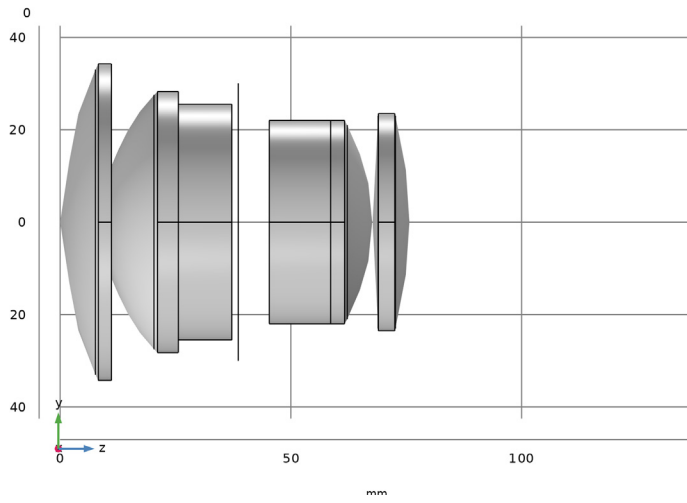
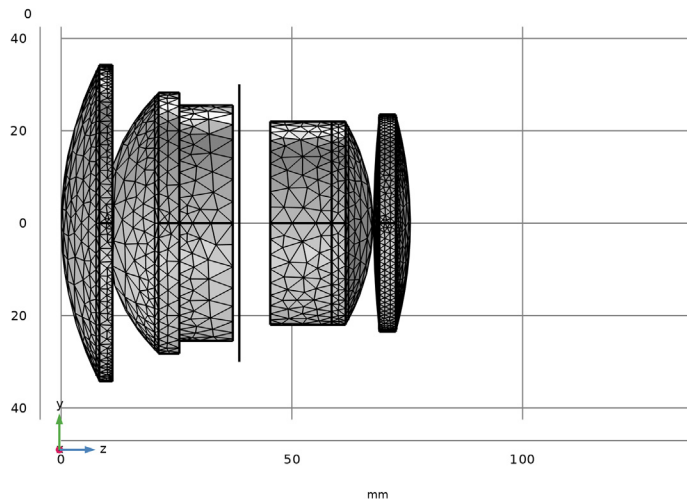

Figure 2: The double Gauss lens geometry sequence.
Figure 3: The default Physics-controlled mesh for the double Gauss lens.
is simplified by making use of the predefined work planes within the part instances. It is important to appreciate that the ray tracing method used by the Geometrical Optics interface is inherently nonsequential, so the same result could be obtained by placing part instances within the geometry in any order. The double Gauss lens geometry sequence is shown in Figure 2 and the default, physics-controlled mesh, is seen in Figure 3.
- 7 In the **Graphics** window toolbar, click  next to  **Go to Default View**, then choose **Go to ZY View**. Orient the view to place the *z*-axis (optical axis) horizontal and the *y*-axis vertical. Compare the resulting geometry to Figure 2.